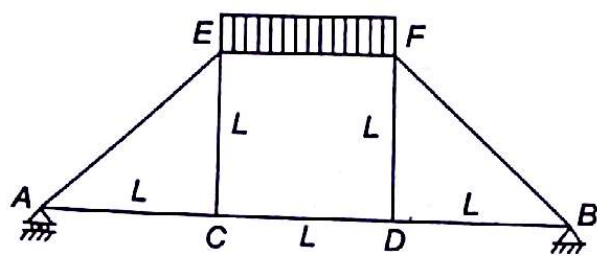

Fig. 4.54
- 4.25 A truss consists of horizontal members (AC, CD, DB and EF) and vertical member (CE and DF) having length L each. The member AE, DE and BF are inclined at 45° to the horizontal. For the uniformly distributed load 'p' per unit length as the member EF of the truss shown in Fig. 4.54, force in the member CD is